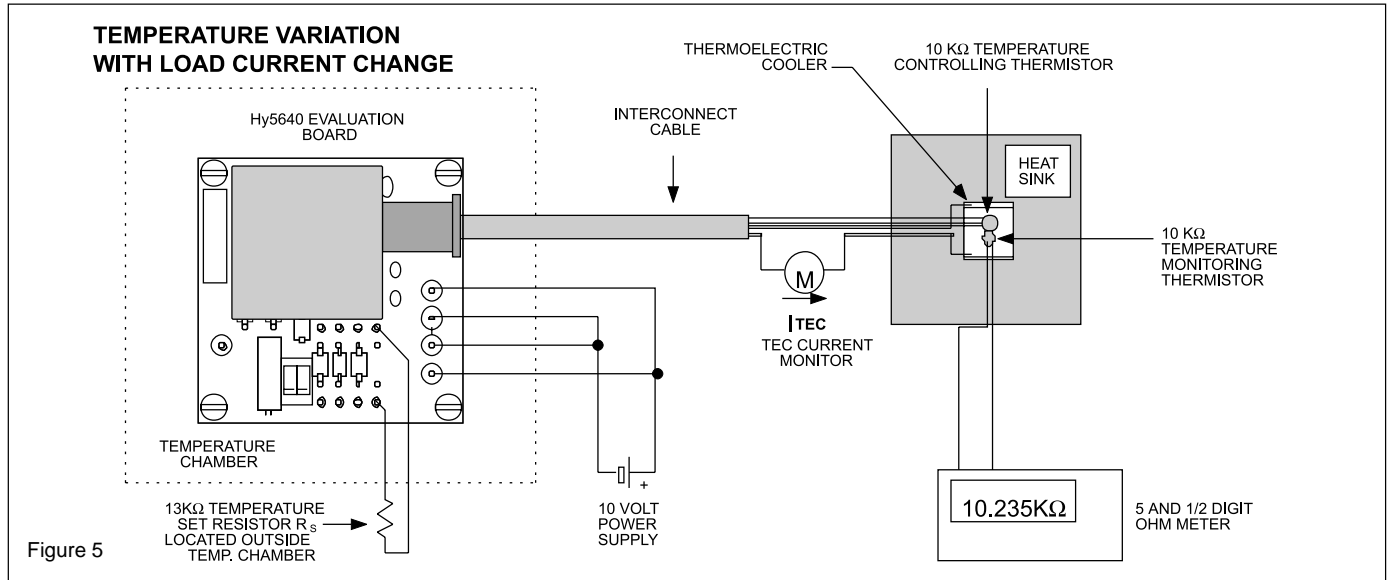

Figure 5
The temperature controlling stability of the HY5640 vs. Base Temperature* is measured using the test setup illustrated in Figure 5. The HY5640 is placed inside the temperature chamber. The thermoelectric cooler/thermistor assembly is placed outside the chamber. In addition, the 13KΩ temperature set resistor R_s is located outside the chamber to eliminate any temperature effects due to this
* Base Temperature is the temperature of the aluminum heat spreader (Base) of the HY5640. In the experiment illustrated in Figure 5, the programmed temperature of the TEC assembly and its ambient temperature are almost equal. The TEC current is therefore almost zero amperes thus eliminating any self heating effects in the HY5640. In this case, the temperature of the HY5640 is virtually equal to the temperature of the chamber. In practice, the temperature of the base of the HY5640 is a function of the TEC drive current, the HY5640 heat sink size, the air flow across the heat sink and the temperature of the surrounding air.